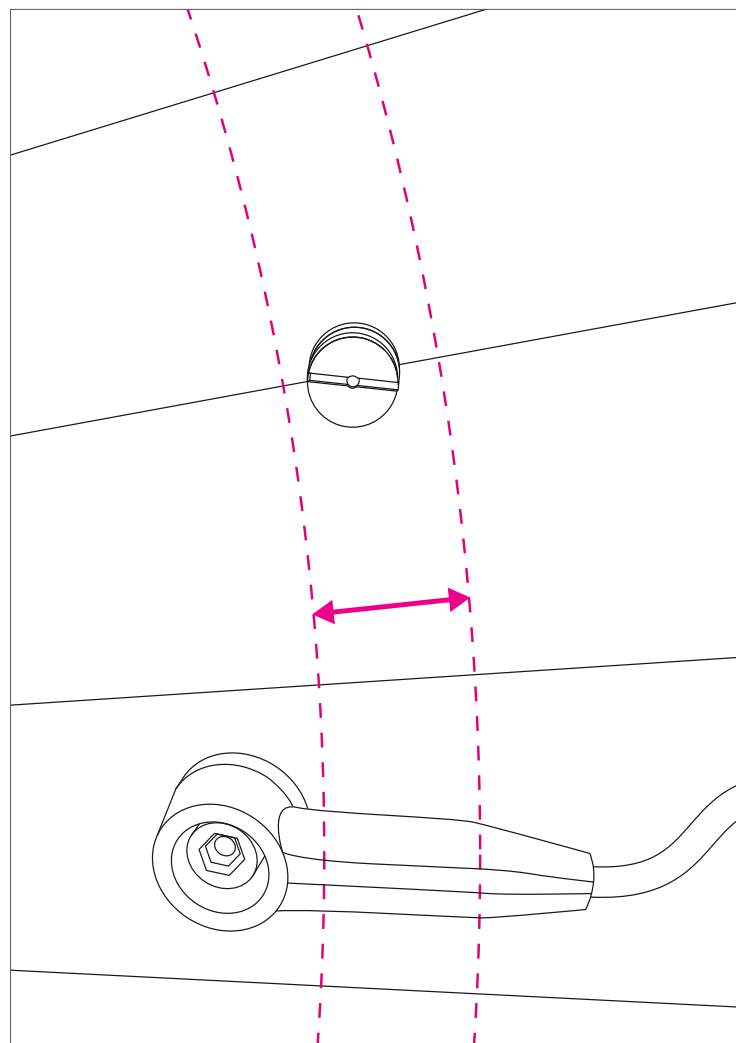

Figure 4.44 Magnet position relative to the sensor
2. Mount the magnet 1 to 15 mm across from the speed sensor (Fig. 4.44)